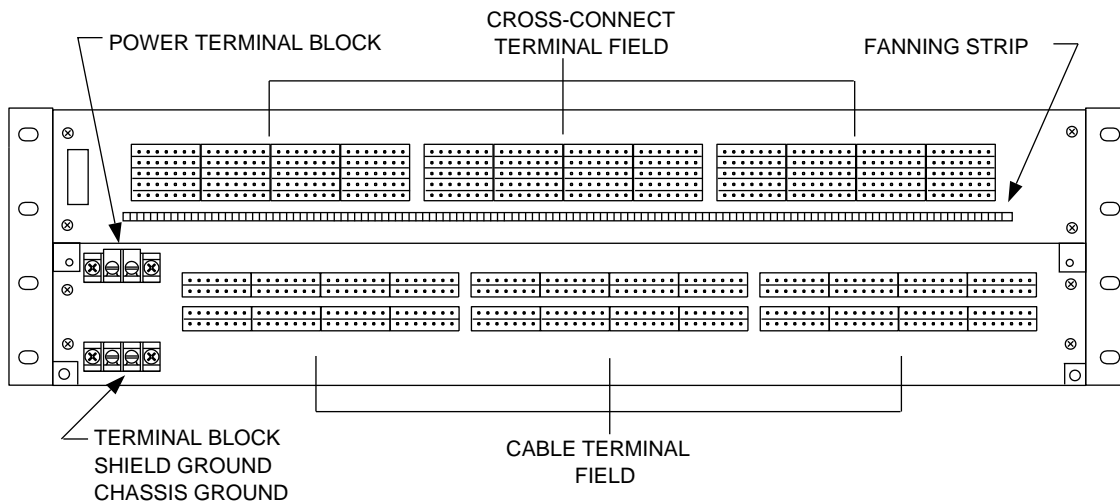

Figure 3. Wiring and Cabling
5. Connect power and ground wiring to the terminal block (see Figure 3).